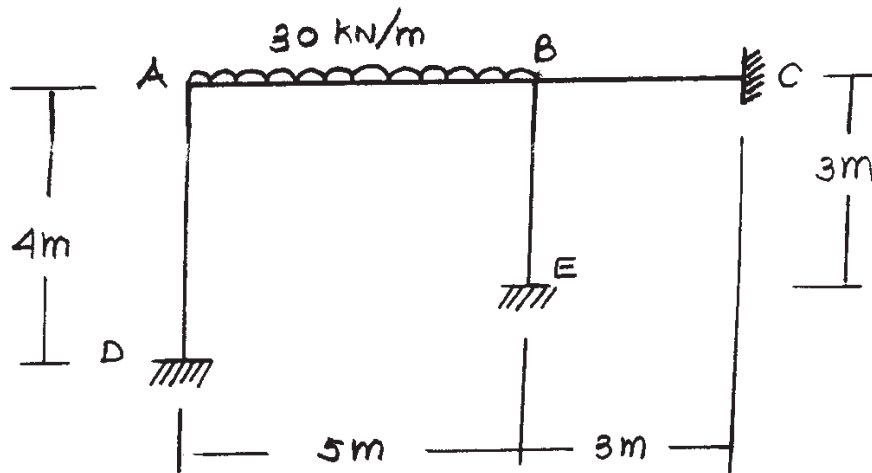

FIGURE 3(b)
- b) Analyse for nodal unknowns of portal frame shown in fig 3(b).  $EI$  is uniform. Determine member end moments & draw B.M. diagram. [10]